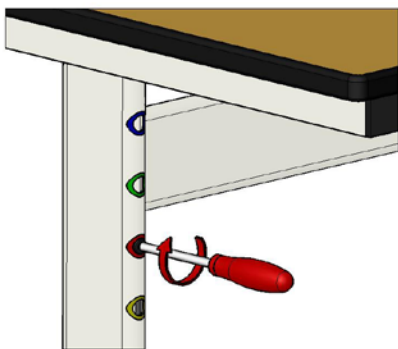

Figure 1
- Screw in the locking screw on the first table leg (Fig. 1).